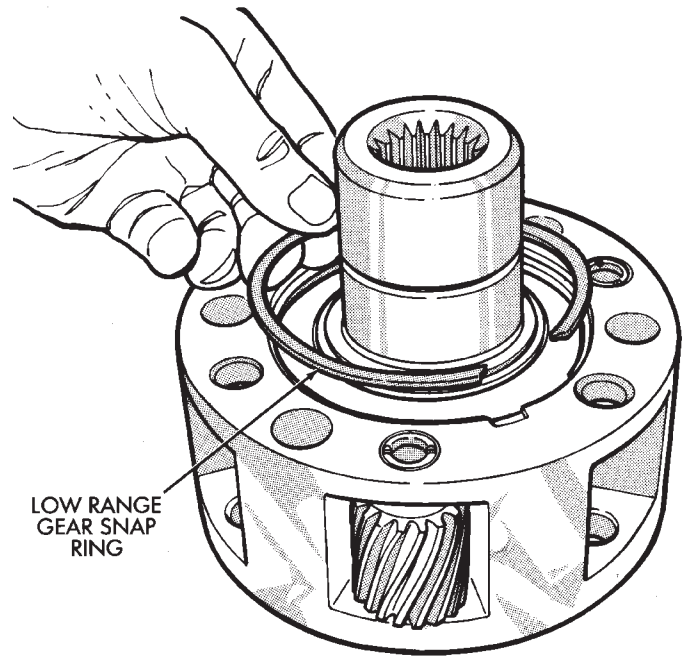

Fig. 45 Install Low Range Gear Snap Ring
- (12) Install low range gear snap ring (Fig. 45).
- (13) Lubricate input gear and low range gears with automatic transmission fluid.
- (14) Start input gear shaft into front case bearing.
- (15) Press input gear shaft into front bearing.